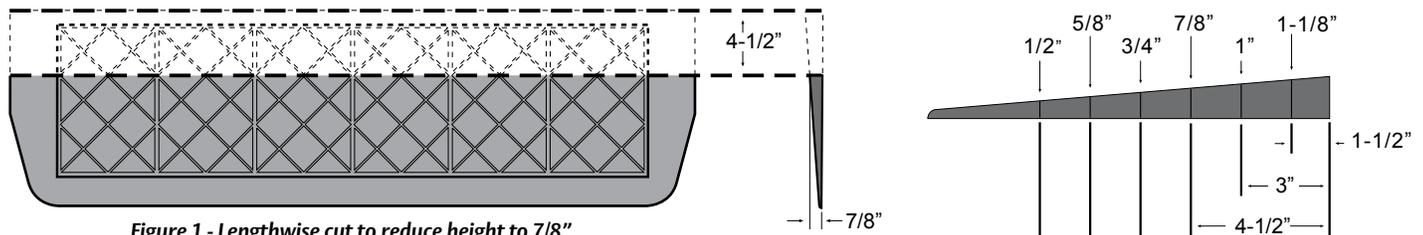

Figure 1 - Lengthwise cut to reduce height to 7/8".
2. If the ramp is too tall, it can be reduced in height to obtain the desired offset height. The glue grooves in the bottom can also serve as cutting guides. (See Figure 1 below with typical height cut-downs).